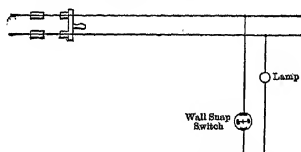

FIG. 160. The lamp is controlled from a single wall switch.
**86. The Control of Incandescent Lamps.** Fig. 160 represents the ordinary wiring of a lamp when it is desired to turn it off or on from a single wall switch.